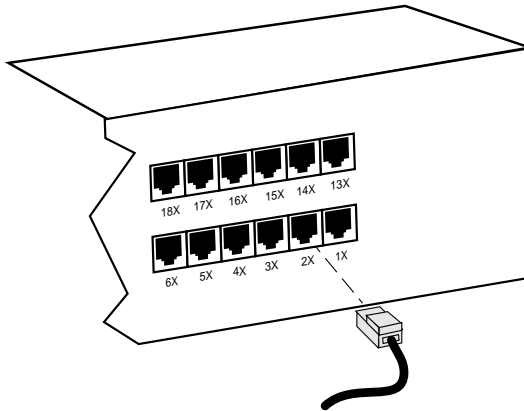

Figure 3-8. TCU Port Connections
1. Insert the RJ45 connector from each twisted pair segment into the desired network port on the STH. See Figure 3-8.